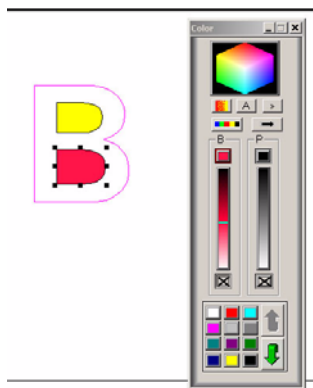

Figure 159
- 2** Click the **Change Color** icon to open the **Color** box. See figure 159.